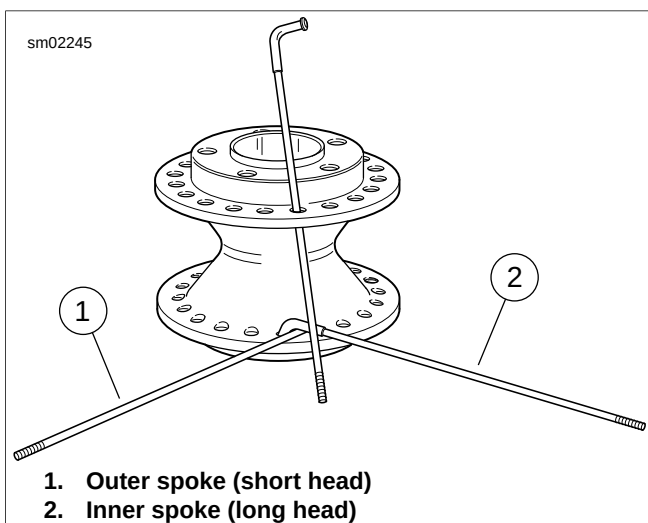

Figure 2-31. Lacing 19 Inch Wheel Hub
3. See Figure 2-31. Place hub on bench with the primary brake disc side up. Insert one outer spoke (short head) into any bottom flange hole and swing it clockwise. Insert an inner spoke (long head) in the next hole to the left of the outer spoke. Swing the inner spoke counterclockwise over the outer spoke.